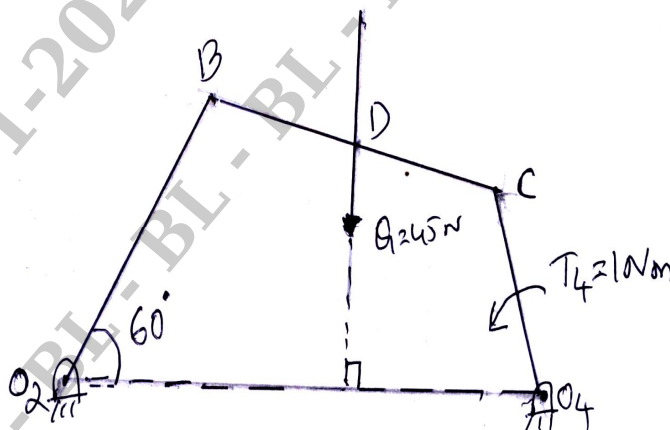

Fig. Q3 (b)
- b. Link O_4C of a four bar mechanism C shown in Fig.Q3 (b) is subjected to a torque $T_4 = 1$ Nm in counter clockwise direction. The link BC is subjected to a force $Q = 45$ N downwards. Determine the torque T_2 on link O_2B and the reactions at O_2 and O_4 . The lengths of the links are as follows :